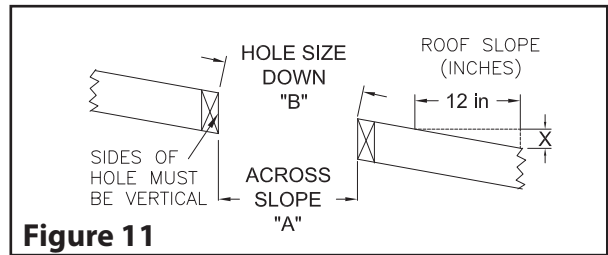

Figure 11
Step 1: Locate the chimney in a convenient location as near as possible to the appliance outlet. Cut and frame an opening in the roof for the support (see **Table 5**). The sides of this opening must be vertical (see **Figure 11**).